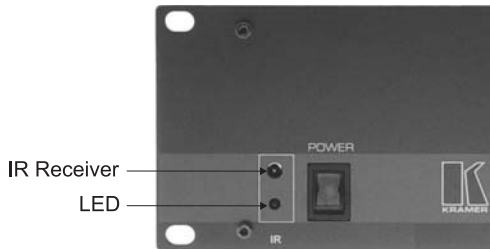
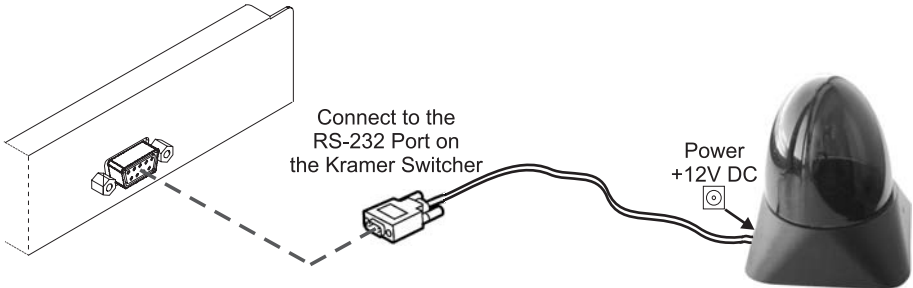

Figure 2: Built-in Remote Receiver
Figure 3: Connecting the External Remote Receiver
- Transmit to an identical remote receiver, either built-in (see Figure 2) or external (see Figure 3). The remote receiver includes non-volatile memory that retains the last setting, even after the power supply is interrupted
Most Kramer switchers¹ include a built-in front panel remote receiver that is located to the left of the power switch, as Figure 2 illustrates:
When your RS-232 controlled Kramer switcher has no built-in front panel remote receiver, you can use the external remote receiver¹ (see Figure 3). The external remote receiver includes an attached RS-232 cable with a DB9 connector, and a 12V DC power socket.
To connect the external remote receiver, as the example in Figure 3 illustrates, do the following: